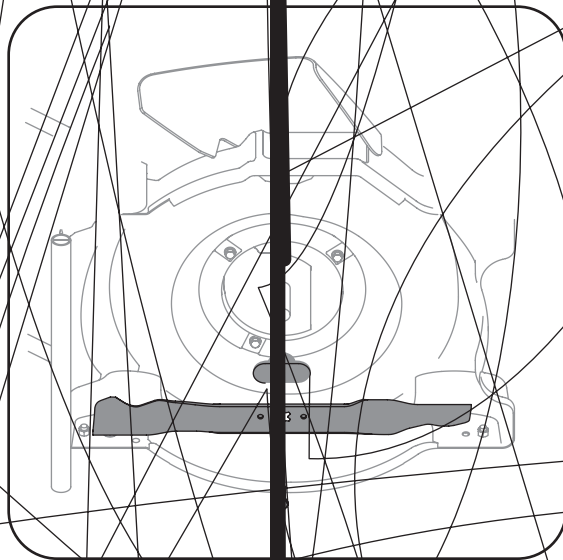

Figure 5-2. The blade and corresponding hardware.
2. Remove the bolt and the bell washer which hold the blade and the blade adapter to the engine crankshaft. See Figure 5-2.
3. Remove blade and adapter from the crankshaft. See Figure 5-2.